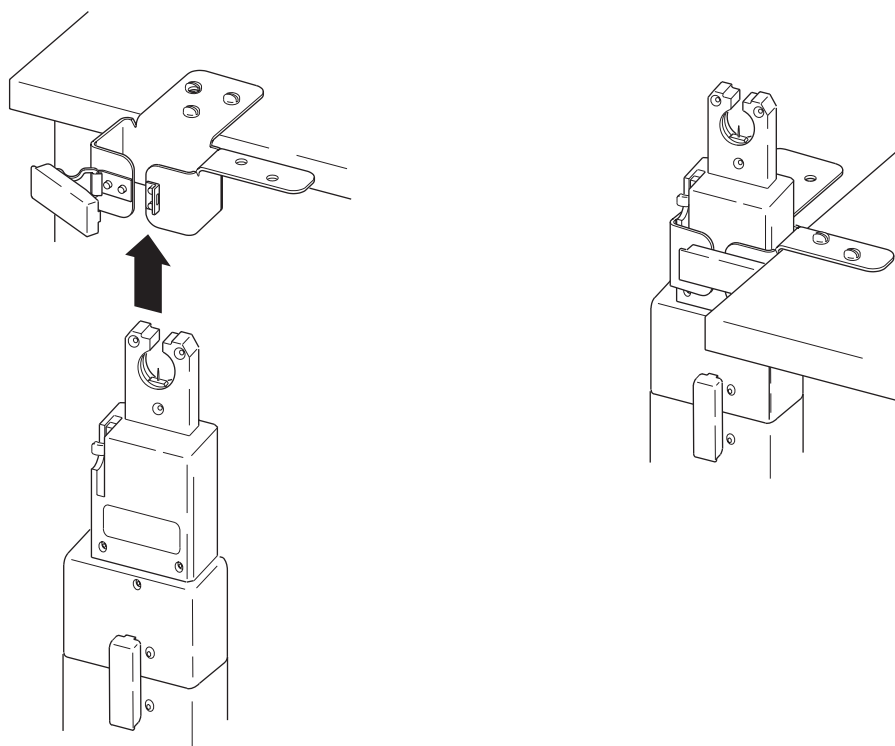

Figure 21 Using the Series 4 Bench Mount Bracket
1. Determine the mounting orientation of the bracket on the workbench. See Figure 21. Secure the bracket to the workbench. Make sure the latch is accessible.